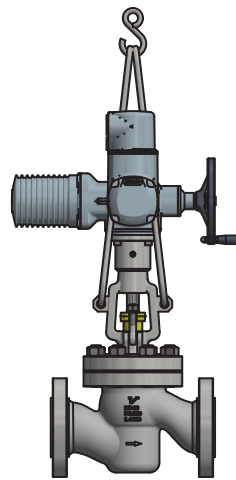
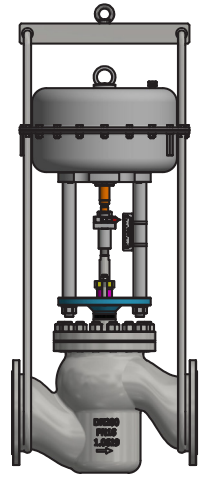

Figure C.26
Figure C.27
- If possible, lift VENR via the lifting lugs or body (Figure C.26 or Figure C.27).